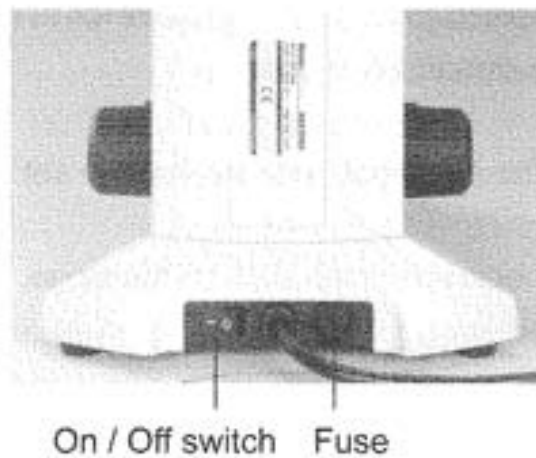

Fig. 1
2. Press switch to position ON. (Fig. 1)